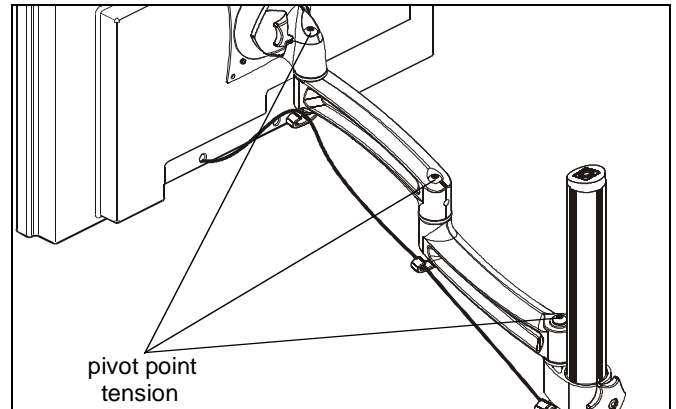

Figure 12
1. Adjust pivot position as desired. (See Figure 12)
2. Adjust pivot point tension screws to change pivot adjustment tension. (See Figure 12)